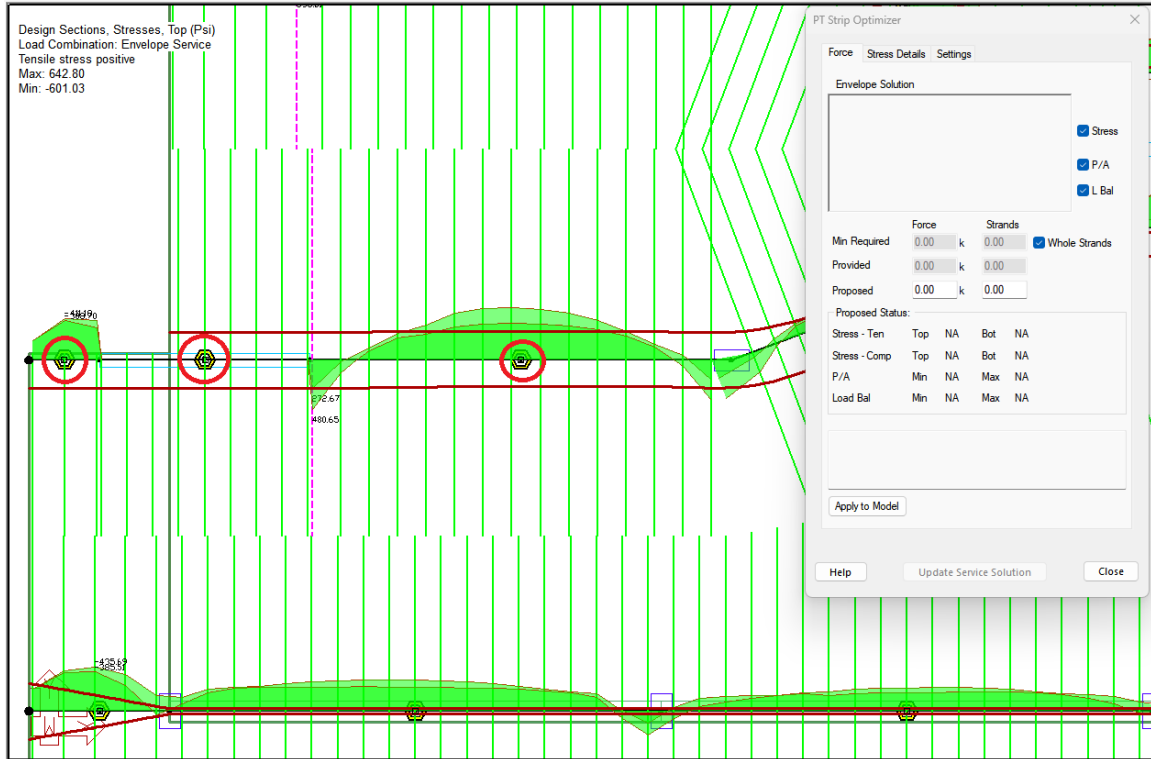

FIGURE 9-98
- Each span of each support line will now be indicated by a black and yellow hexagon as shown in **FIGURE 9-98**.